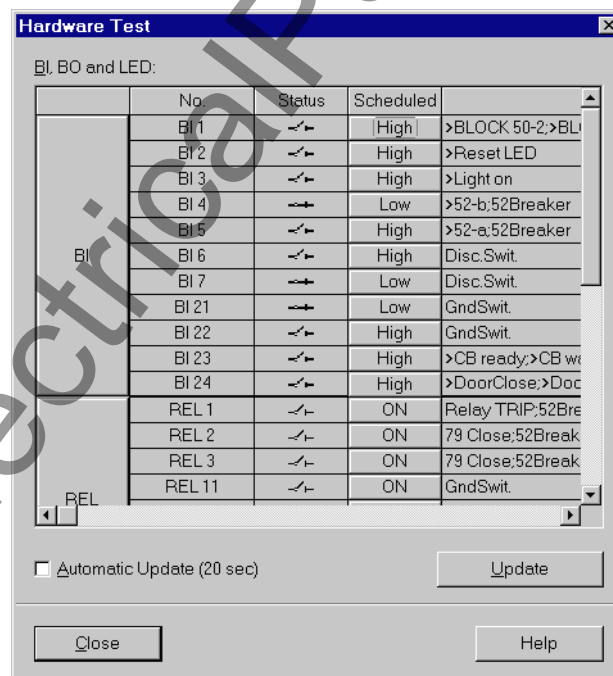

Figure 8-22 Dialogue box for hardware test
- ❑ Double-click in the list view on **Hardware Test**. The dialogue box of the same name opens (see Figure 8-22).